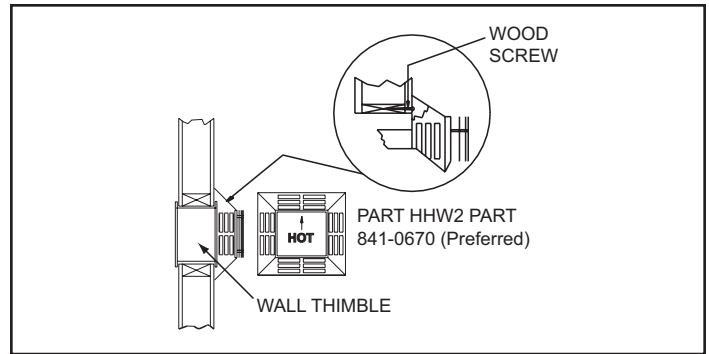

Figure 5.6
Step 4 - Position the horizontal termination cap in the center of the 10 in. x 10 in. (254mm x 254mm) square hole and run a bead of non-hardening mastic around its outside edges, so as to make a seal between it and the wall, attach termination cap to the exterior wall with the four wood screws provided. The arrow on the vent cap should be pointing up (Figure 5.6).